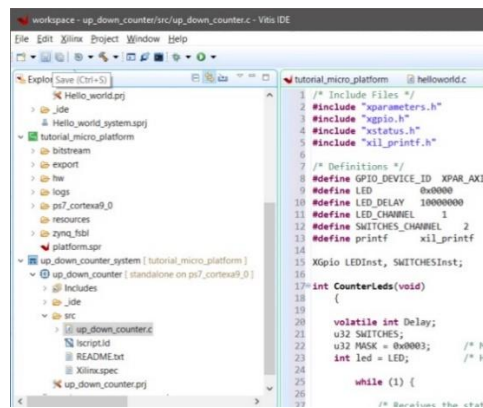

Figure 40
11. Save the file by selecting, in the main toolbar, **File → Save**, or clicking in the **Save** toolbar icon (Figure 40)